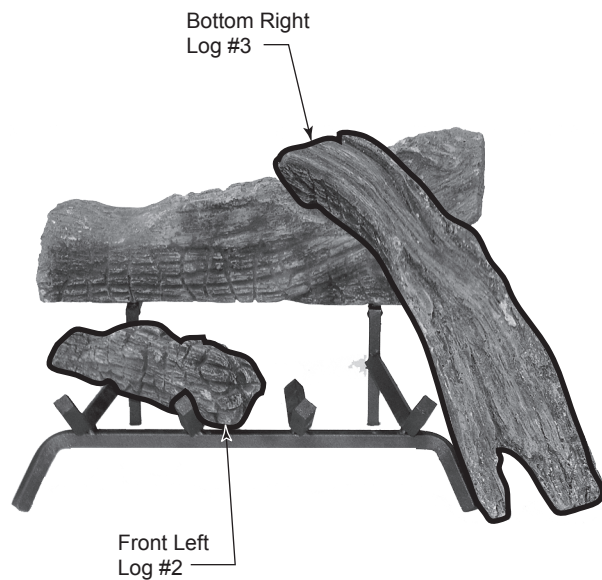

**Figure 58 -
2. Place Rear Log #1 on back of grate. *Figure 58*